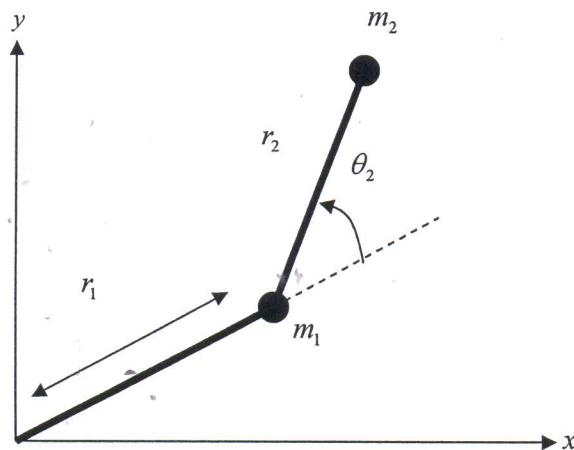

Figure 5: The $R - \theta$ robot manipulator with one prismatic and one rotary joints
- (b) Consider the point masses, m_1 and m_2 at the distal end of links of the $R - \theta$ robot manipulator with one prismatic and one rotary joints as shown in **Figure 5**. Derive the followings: